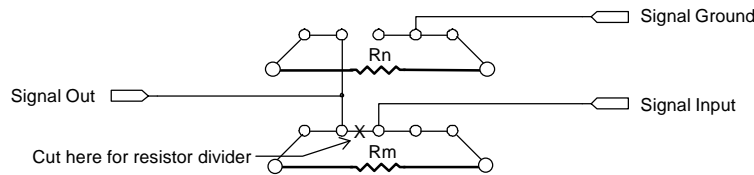
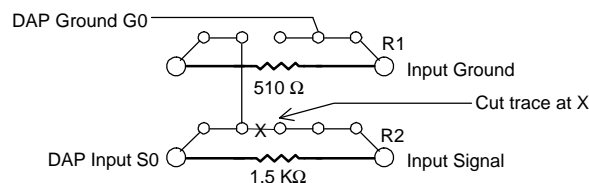

Figure 3. Resistor Placement
Figure 4. Resistor Circuit for S0
To configure the Analog Input Expansion Board for a current input, place a resistor in the location on the board corresponding to the input pin being reconfigured. Figure 3 and Table 3 show resistor placement. The appropriate size for this resistor can be calculated using Ohm's Law, given the maximum input current and the input voltage range of the Data Acquisition Processor .
Once the trace is cut, the resistors for the voltage divider are soldered into place. The resistor on the ground side of the divider is placed in an odd-numbered resistor location and the resistor on the input signal side of the divider is placed in an even-numbered resistor location. Figure 3 and Table 3 illustrate resistor placement for each input.
- * The current input resistor is placed in the Rn location shown in Figure 3 .
- ** The first resistor is on the ground side of the voltage divider (Rn), the second is on the input signal side (Rm), as shown in Figure 3 . For example, R1 is Rn and R2 is Rm. Figure 4 shows the resistor placement for this example.
Table 3 and Figure 3 can be used to locate the appropriate resistors when using either the current input or voltage division configuration. Figure 3 shows schematically how the inputs and grounds on the termination board are connected.
Resistance values of 1500 and 500 Ohms may be used. The trace beneath the X above R2 is cut. Then the 500 Ohm resistor is placed in the R1 position and the 1500 ohm resistor is placed in the R2 position. Since 500 Ohm resistors are not commonly available, a 510 Ohm resistor would typically be used instead, resulting in a small error in the division ratio. This error is linear and can be corrected by multiplying by a constant in DAPL. Figure 4 illustrates the circuit for this example.